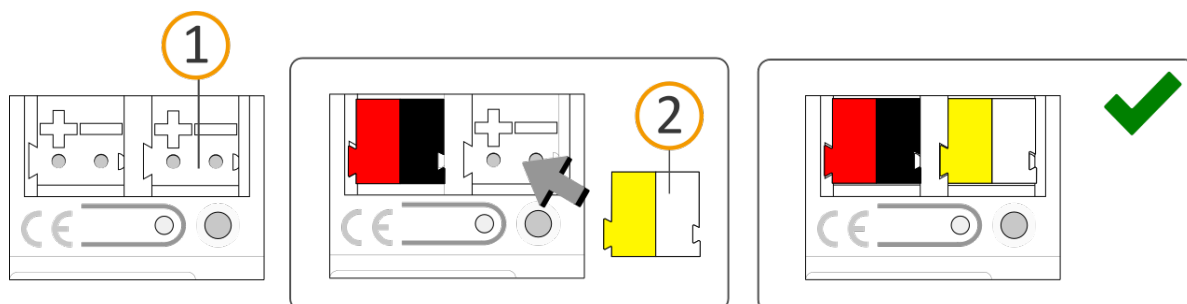

Figure 18: Connect the power supply
3. Connect the external power supply to the power supply terminal (see figure 18, Pos. 1) by means of the supplied power connection terminal (see figure 18, Pos. 2). Polarity: left/yellow: "+", right/white: "-".
- a. Attach the power connection terminal (see figure 18, Pos. 2).